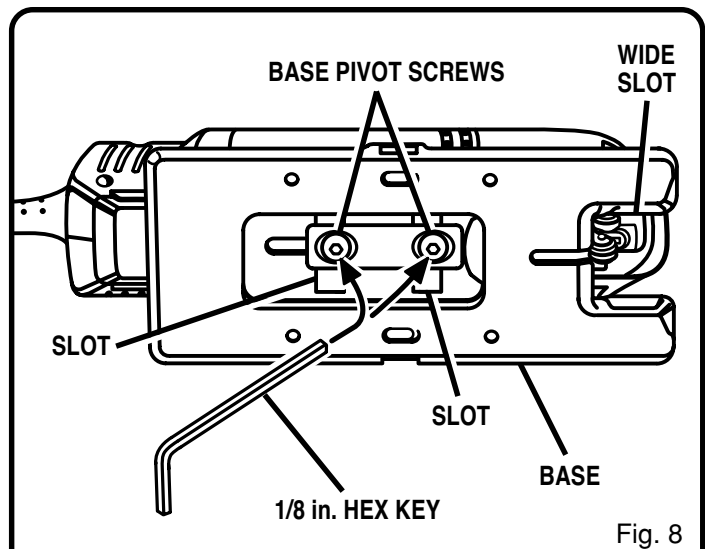

Fig. 8
See Figures 8 and 9.
- Slide base forward until base pivot screws can move freely in slots in base. See Figure 8.